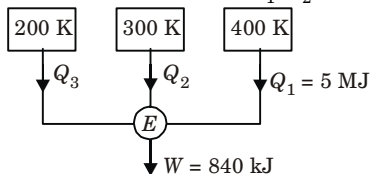

Fig. 8.
- Assuming the positive direction of Q_1 , Q_2 and Q_3 as shown in Fig. 8.